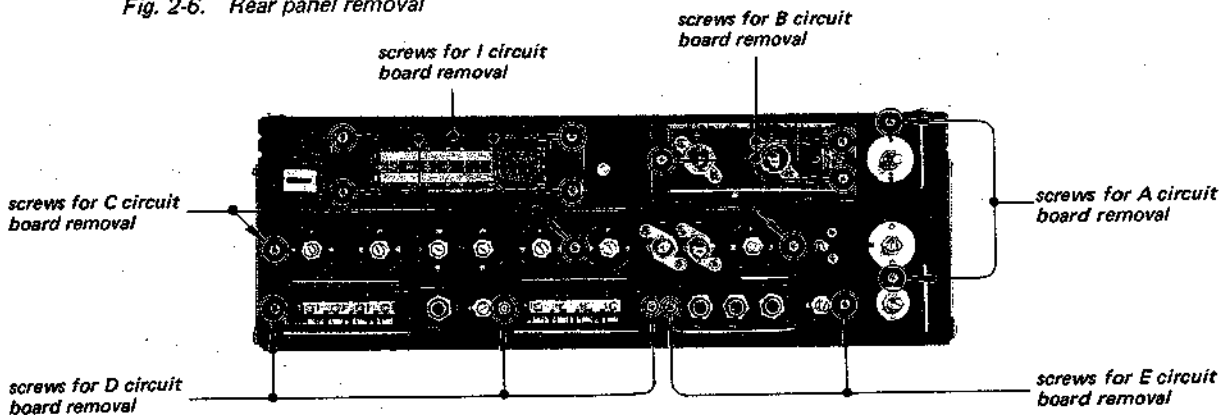

Fig. 2-7. Circuit board removal
3. Remove the screws shown in Fig. 2-7.
F, H, I, J Circuit Boards (See Fig. 2-7)